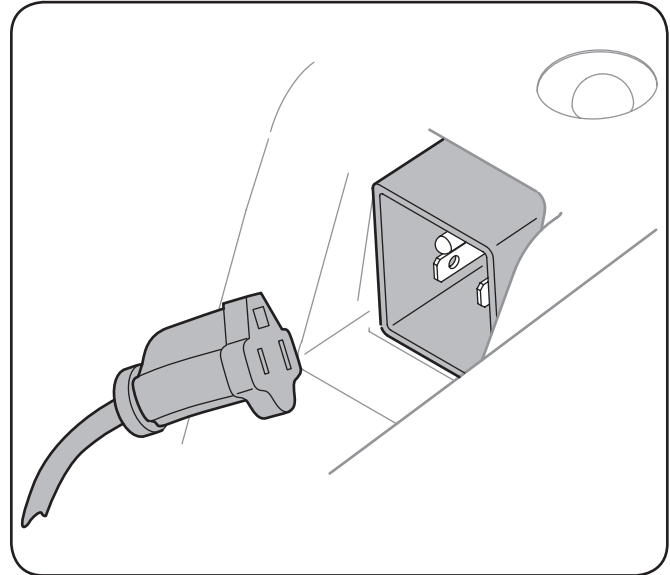

Figure 5-2
3. Plug the extension cord into the electric outlet located on the plastic chroud. Plug the other end of extension cord into a three-prong 120-volt, grounded, AC outlet in a well-ventilated area. See Fig. 5-2.